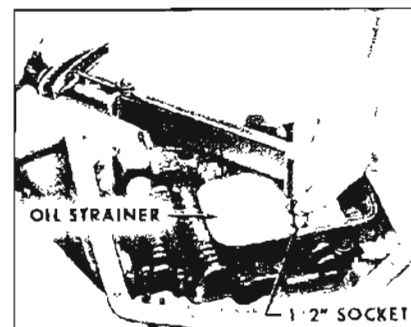

Figure 5-356
16. Torque oil strainer retaining bolt to 8-12 ft. lbs. See Figure 5-356.